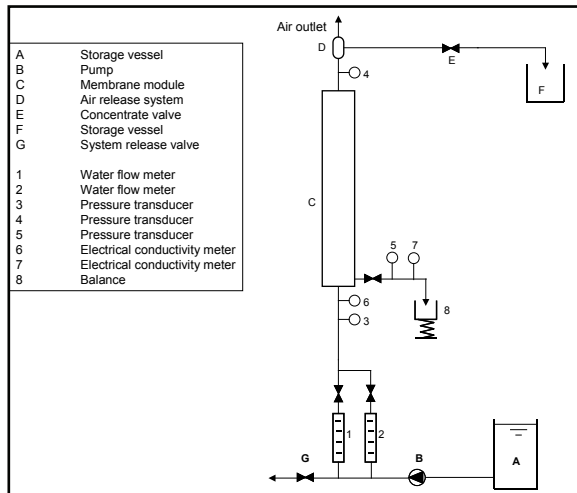

Figure 2 - Schematic drawing of test installation
The membrane module (A) is the central part in the installation (Figure 2). This module contains 45 capillary nanofiltration membranes with inner diameter of 1.5 mm and a length of 1 m. The module is positioned vertically. Feed water is added to the module by a pump (B). Permeate is collected and weighted by means of a balance (C). The cross-flow velocity inside the membranes is measured by means of a flow meter (D). The operating pressure is measured at three different places in the system, in the feed flow (P_1), in the concentrate flow (P_2) and in the permeate flow (P_3). The water quality (conductivity and temperature) is monitored by conductivity measurements. The conductivity of the feed flow (EC_1) and of the permeate (EC_3) is measured. On top of the system a special air release device (R) is placed. The system is flushed by opening valve W. A valve (E) is used to adjust the desired flow and pressure.